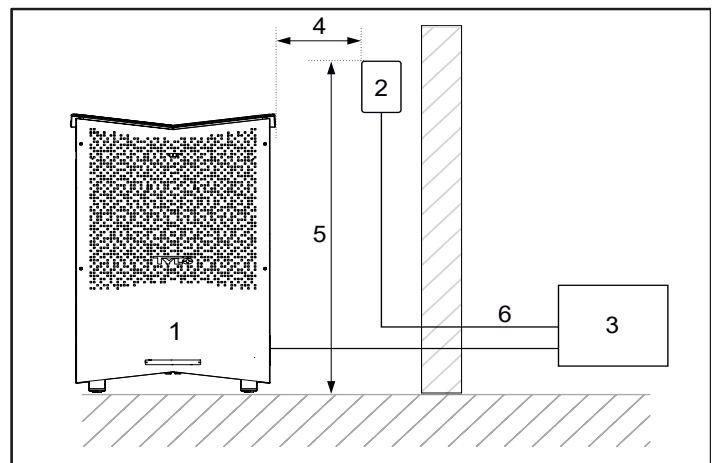
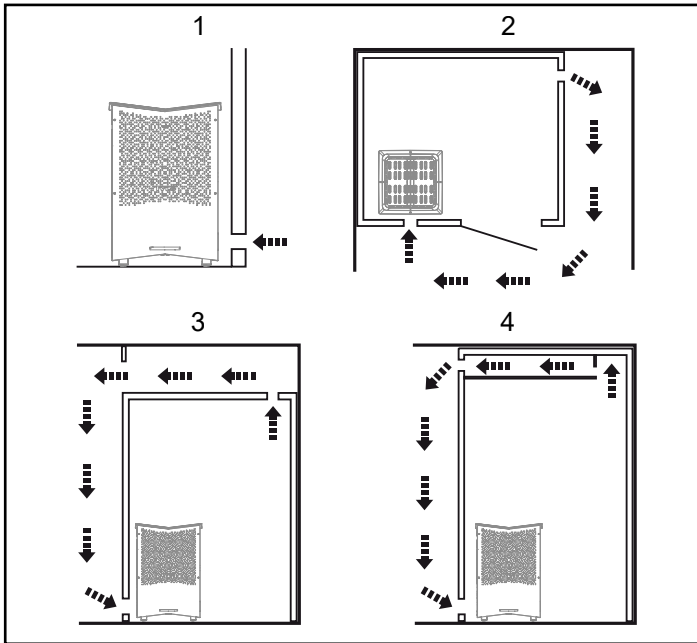

Figure 5: Safety distance / installation height, control panel
Figure 6: Positioning the air intake and exhaust vents
- Plan the control panel positioning (see the attached instructions for the control panel for allowable positioning). See also the Control Panel section, Figure 5.
- Position the air intake vent (see the Air intake vent positioning section, Figure 6).
- Position the air exhaust vent (see the Air exhaust vent positioning section, Figure 6).
The control panel may be placed inside a Tylö sauna room or a self-built sauna room with correct ventilation which operates according to Tylö-recommended ventilation (natural ventilation principle). Read the sections, Positioning the intake vent and Positioning the outlet vent in these instructions, figure 6. The control panel must always be placed outside the sauna cabin if these requirements are not met. If installing the control panel inside the sauna cabin, it should be positioned with regard to safety distances and installation height, see Figure 5.
- at the maximum possible distance from the air intake vent, e.g. diagonally (see Figure 6).
- high on the wall or in the ceiling (see Figure 6).